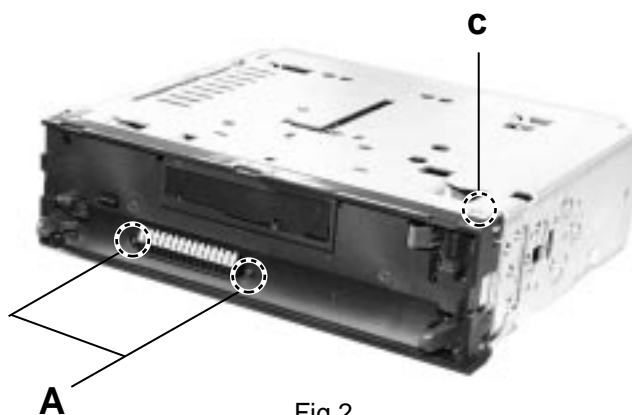

Fig.2
■ Removing the front chassis (See Fig.2~3)